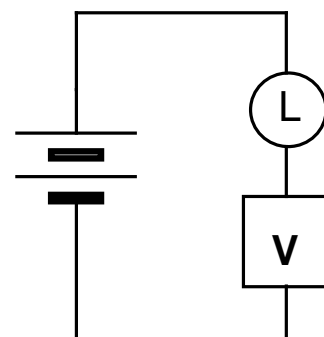

Figure 6.5a
1. Connect the circuit shown in Figure 6.5a. Describe the observed behavior of both the bulb and the voltmeter
4. Why isn't a voltmeter normally connected to a circuit as in Figure 6.5a?